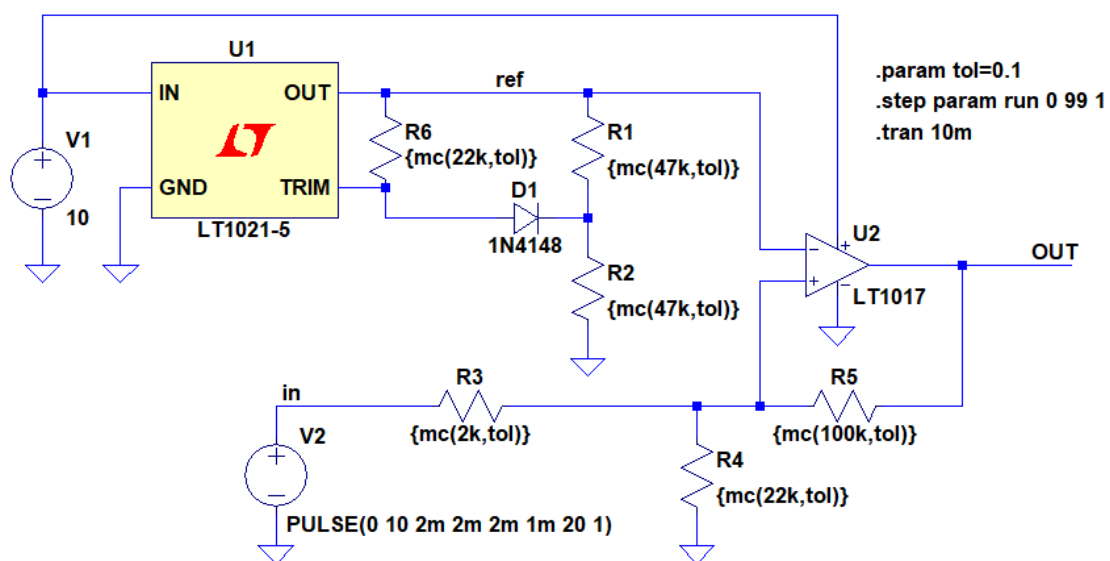

Fig. 8. Diagram of the tested comparator system for MC analysis.
1. Modify the comparator circuit diagram as shown in Figure 8.